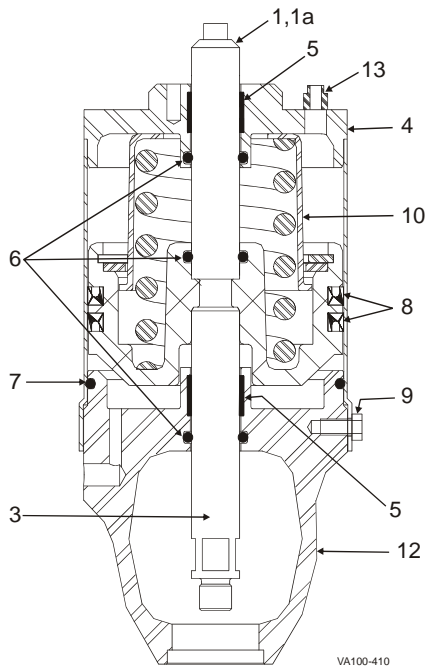

Figure 31 : 4" and 5" Actuator
1. Inspect the piston U-cup seal (Figure 31, item 8).
2. Remove the worn U-cup seal. Do not score or nick grooves in the piston (item 10).
6. Place the cylinder over the yoke, and install cap screws (item 9) to secure it.